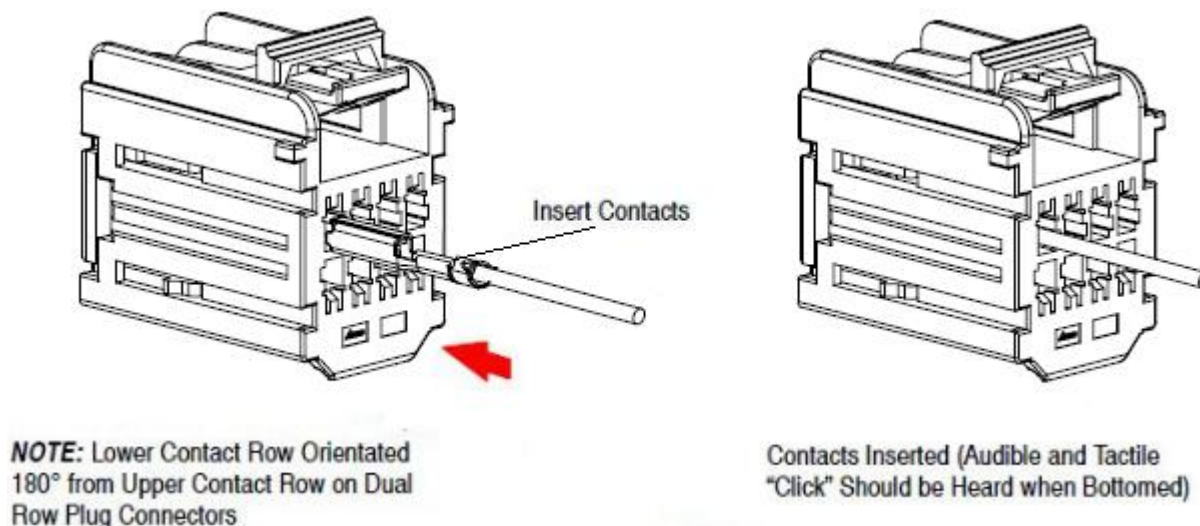

Fig 9.
- (2) Locate the desired circuit into which the individual socket contact will be loaded. The contact must be inserted from the wire end (rear) of the plug connector until it bottoms (there should be an audible and tactile “click”). Each socket contact must be locked in place. Gently pull on the wire to ensure proper contact locking and retention with a force of 4.5 to 8.9 N [1 to 2 lbf]. See Fig 9.